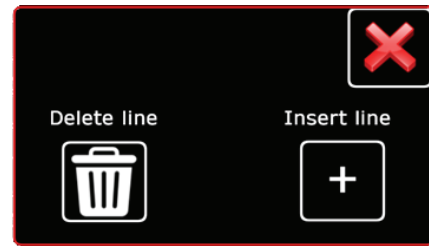

Figure 16-2.
2. Select the “trash can” symbol to delete a line from the recipe. (Figure 16-2).